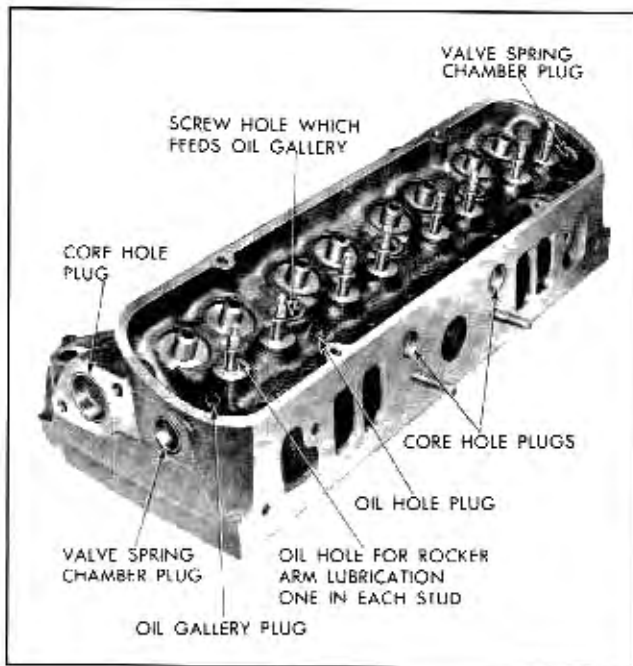

Fig. 6-39 Left Cylinder Head—Viewed from Right Rear
1. Inspect valves and seats to determine condition before cleaning. Also check oil and water passage plugs for evidence of leakage (Figs. 6-39 and 6-40).
- c. Check oil passages from oil gallery through rocker arm studs. A simple test can be made using a rubber hose and smoke. Block lower end of cylinder head screw hole which feeds oil gallery (Fig. 6-39) and blow smoke in top end of hole through rubber hose. Smoke should come out hole in each stud.